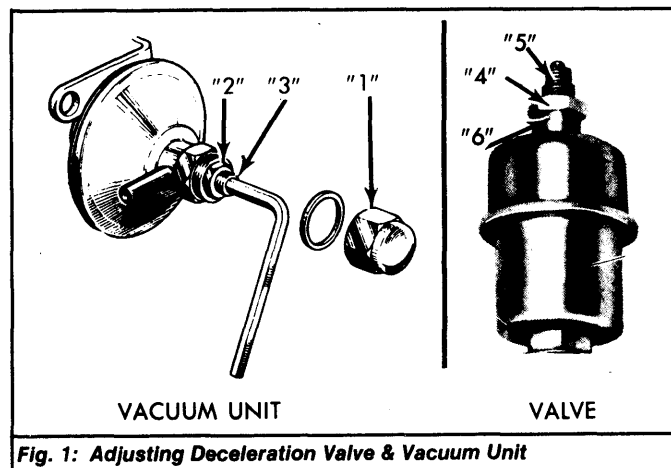

Fig. 1: Adjusting Deceleration Valve & Vacuum Unit
- 3) Remove domed nut "1". See Fig. 1. Loosen lock nut "2" and start engine. Engine speed should be 1450-1550 RPM. If engine speed is not correct, adjust screw "3" to specification, using a 3mm Allen wrench.